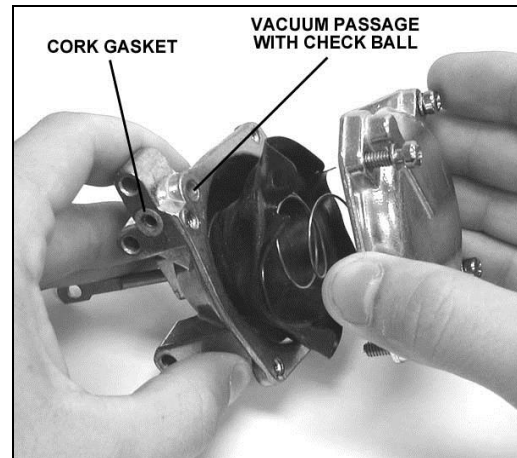

Figure 10
5. Gently remove the cover. Take care as not to tear the diaphragm or lose the check ball (Figure 10).